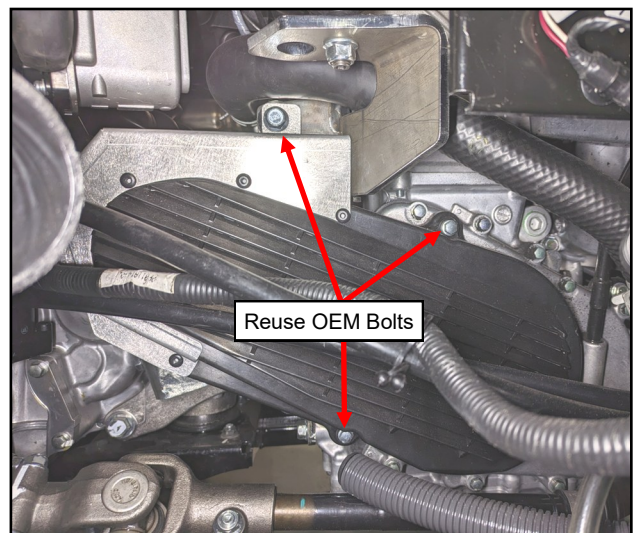

Fig. 3.17 (Install Belt Cover)
3.17 Install the belt cover onto the engine using the OEM belt cover bolts removed earlier. See figure 3.17.